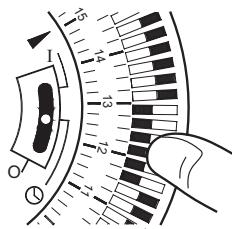
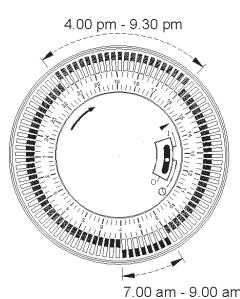

Fig. 4
Fig. 5
To set the time of day, rotate the timer dial clockwise (indicated by the arrow) until the correct time of day is opposite the reference mark ► (see Fig. 4).
1. Using your finger tip or the tip of a pencil, push in as many segments as necessary around the dial, according to the times you don't require heat – see Fig. 4. Each segment pushed in switches the heater OFF for that part of the hour. All other segments will be ON. For example, Fig. 5 shows the timer set to switch the heater ON between 7 am and 9 am and between 4 pm and 9.30 pm .
Check that the clock shows the correct time of day. Set the I - O - O slide switch to O (see Fig. 4) - the convector will switch ON and OFF according to the timer settings (see Fig 5).